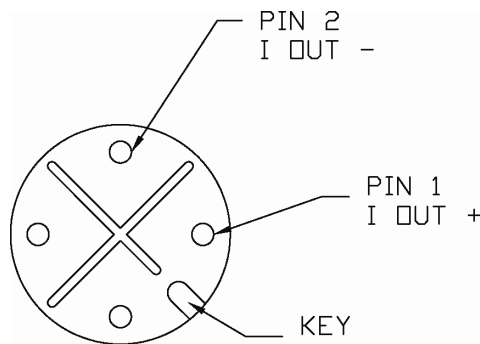

Figure 9 – DST621/661
8.4. DST621/661 - All the features of the DST620/660, and includes a Turck 4-pin connector mounted in the side enclosure fitting that is pre-wired to the transmitter. This allows convenient user connection/disconnection. This option requires the use of a connecting cable or connector (ordered separately). Connector wiring and cable wiring are shown in Figure 9. See below for connectors and cables: